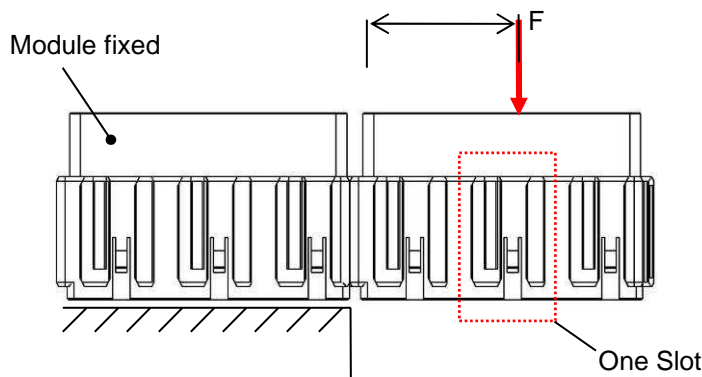

Fig.1
*A Slot is one segment of the mounting features around every module (see Fig1). Each slot consists two guide ways with one latch and one stop. To reduce the mounting force it is simpler to press in turn on different corner than with a higher force in the centre of the module.
Test procedure: Use for the assembly the amount of slot they have to be tested. One module has to be fixed and the other module is free in space as shown in Fig.1. Use the same kind of module for this test and compare the different surface each other to reduce the test sequences.